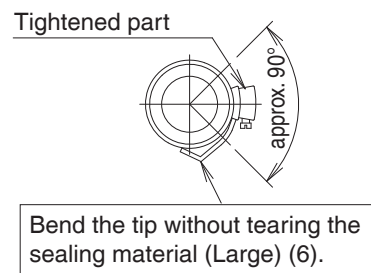

Fig. 15
- Wrap the vinyl tape around the end of the metal clamp (1) so that the sealing material (Large) (6) to be used at the next process may not be damaged with the clamp end or bend the tip of the metal clamp (1) inward as shown. **(Refer to Fig. 15)**